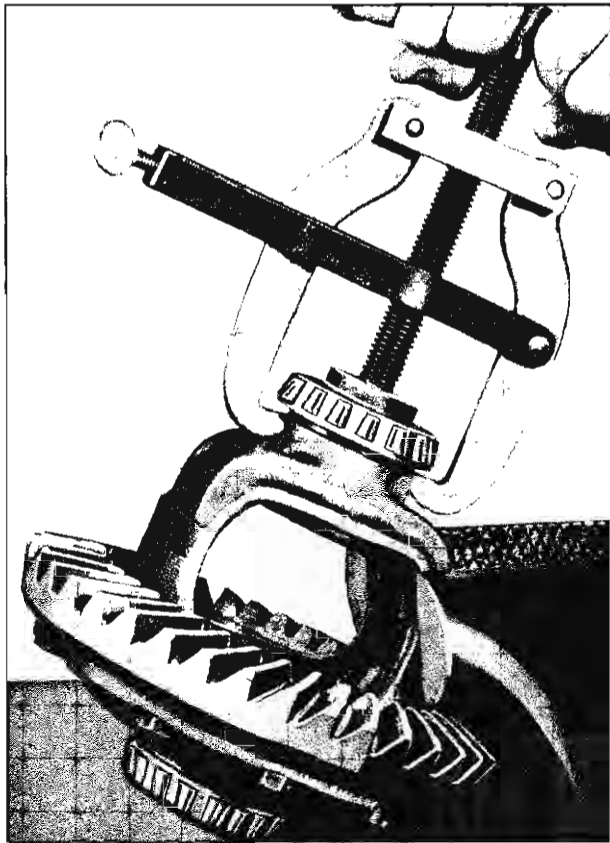

Fig. 24—Removing Differential Side Bearings
2. Tighten puller screw to remove bearings (fig. 24).